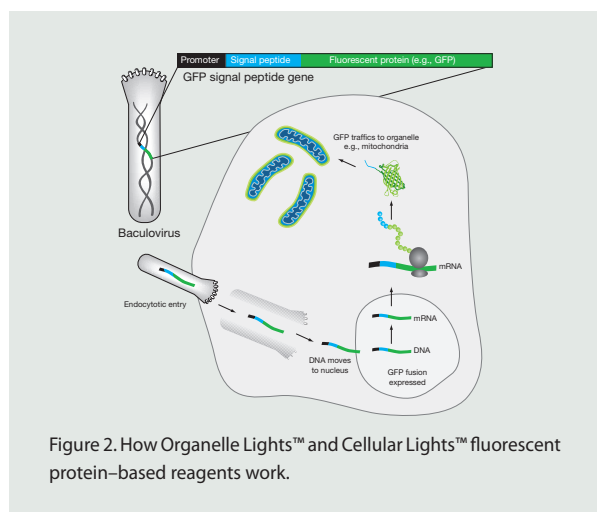

Figure 2. How Organelle Lights™ and Cellular Lights™ fluorescent protein–based reagents work.
APEX Antibody Labeling Kits use a solid-phase labeling technique that captures the IgG on the resin inside the APEX labeling tip (Figure 2). Contaminants (e.g., stabilizing proteins and amine-containing buffers) are eluted through the tip, and an amine-reactive label is then applied. Subsequent wash steps remove unreacted dye, and the fluorescent IgG conjugate is eluted and ready for use in as little as 2 hours with very little hands-on time (Figure 3).
Organelle™ Lights and Cellular Lights™ reagents express fluorescent protein–signal peptide fusions that provide accurate and specific targeting to subcellular compartments and structures (Figure 2) for live-cell imaging. Available in a range of colors, these reagents label a variety of subcellular structures, including nuclear and plasma membranes, mitochondria, and the cytoskeleton (Figures 1 and 3), for convenient multiplexing and colocalization studies. Unlike many conventional stains, Cellular Lights™ and Organelle Lights™ reagents stain independently of function (e.g., membrane potential). As a result, these reagents can be used as a baseline for ratiometric measurements when used with classic stains such as tetramethylrhodamine methyl ester (TMRM, Figure 3). The signal is well retained following aldehyde-based fixation, and the fluorescence can be further amplified using Alexa Fluor® dye–labeled anti–green fluorescent protein (GFP) antibodies.
**Figure 2.** FilmTracer™ calcein biofilm stains applied to *Staphylococcus epidermidis* biofilms. The esterase substrates calcein red-orange AM (A) and calcein violet AM (B) appear to stain all of the bacteria in the biofilms, suggesting that the bacteria are all actively producing esterase. The images were obtained using a Leica TCS-SP2 AOBs confocal microscope with a 63x/0.9 NA water immersion objective. Images contributed by Betsy Pitts, Center for Biofilm Engineering, Montana State University.